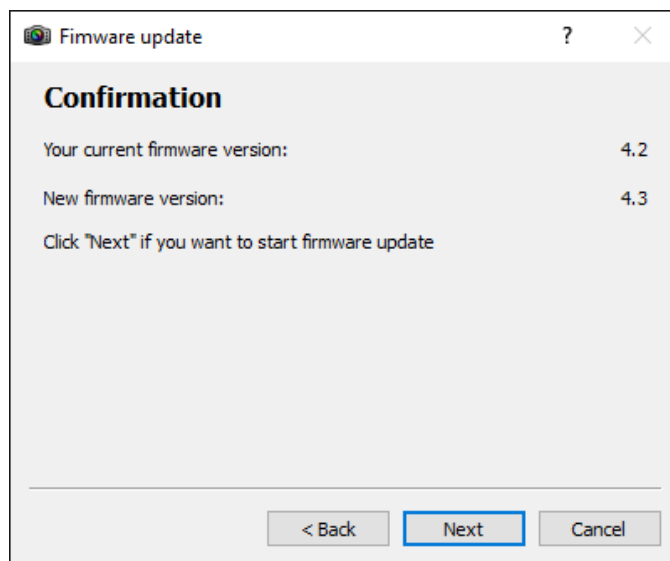

Figure 28 : Firmware Update Confirmation window
3. The next window will display both, current and new firmware, as shown in the Figure 28. By clicking the "Next >" button, the conformation is made and the firmware update will start immediately.